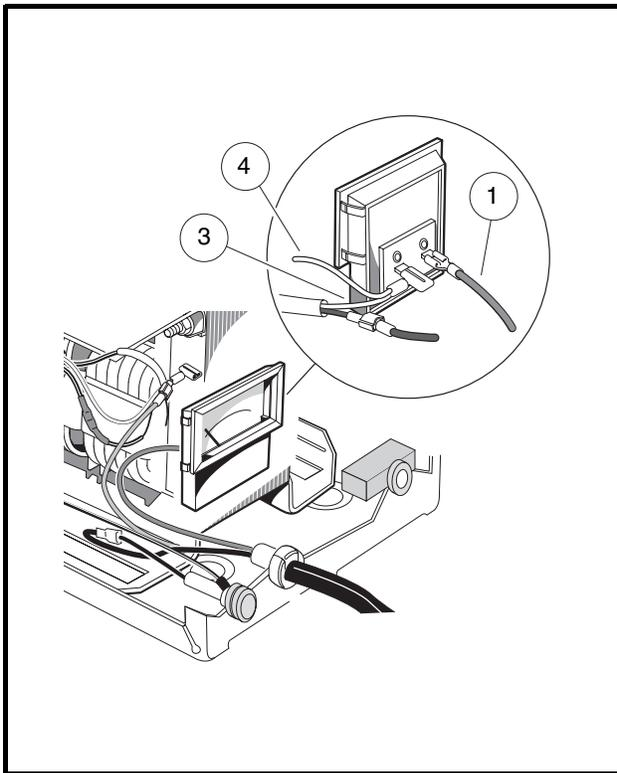

Figure 6-20 Ammeter
3. Disconnect the DC cord red wire (1) and the white wires (3 and 4) from the ammeter (**Figure 6-20, Page 6-27**).
1. Place the ammeter in position in the charger face and ensure that the locking tabs are secure (**Figure 6-20, Page 6-27**).
2. Connect the DC cord red wire (1) and the white wire (3) to the ammeter terminals.
3. Disconnect the white wires (3 and 4) from the ammeter (**Figure 6-20, Page 6-27**).